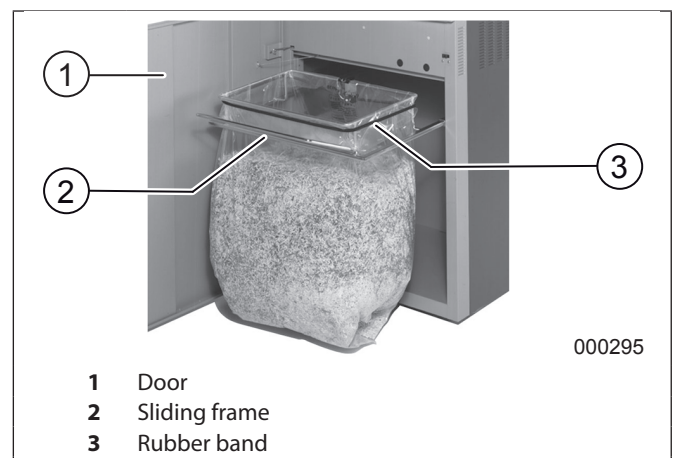

fig.5 Emptying the collecting bag
1. Open the door and take out the sliding frame (fig.5/2) with the collecting bag.
2. Remove the rubber band (fig.5/3), take out the full bag and dispose of contents.